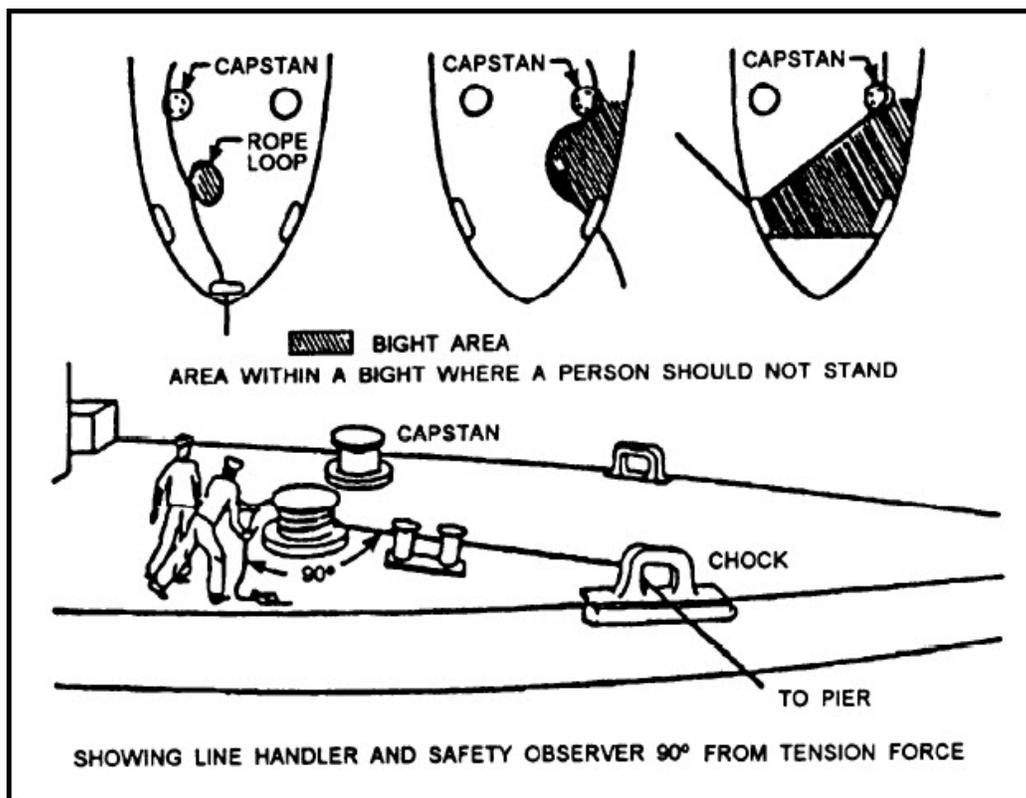

Figure 2-7 Safe working area
- Since a snap-back action inevitably occurs when a line parts under tension, never allow personnel to stand in the direct-line-of-pull of the line when it is being pulled or when it is under tension. A synthetic line parting under tension will snap back at near the speed of sound, and reaction time to clear the area will not be available. Where possible, position line handlers a minimum of 90° from the direction of the tension force (fig. 2-7).
- Never stand in the bight of a line or in the direct-line-of-pull when the line is being pulled or under tension. See figure 2-7 for examples of danger areas.